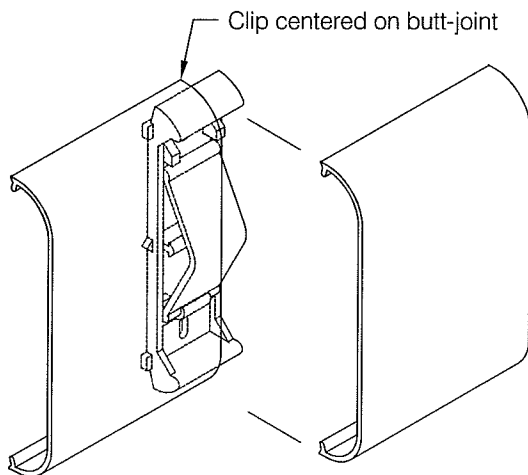

fig 7
- At each snap-on cover butt-joint, see **fig 7**
**Step 7:** Measure between accessories and cut the vinyl cover. Miter cut the cover for all inside corners and special angles not accommodated by the molded accessories. Install a Quik Clip retainer centered at each butt-joint location, see **fig 7**.